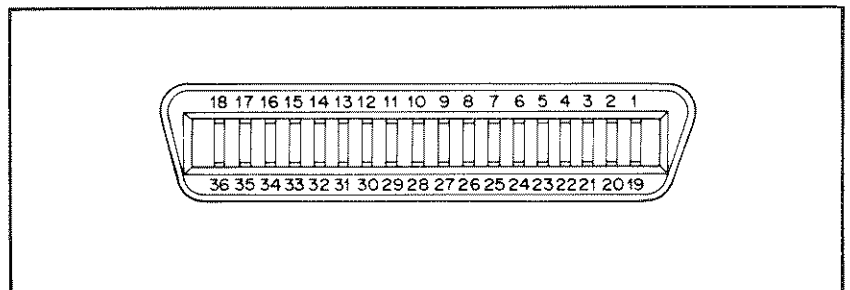

Figure 1-7. 18-bit Parallel Interface Connector.
**Cable.** CENTRONICS 36-pin I/F cable. (see Fig.1-7).